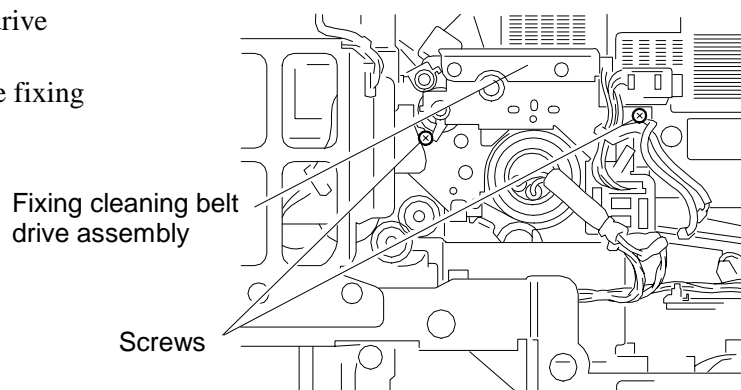

Fig. 5
- 5) Remove the fixing cleaning belt drive assembly. (Figure 5)